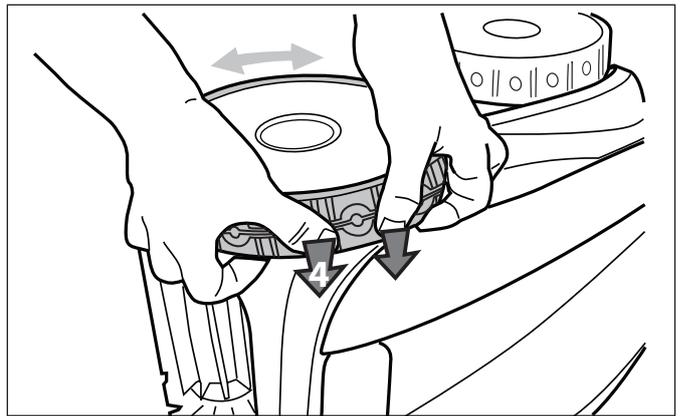

Figure 40. Push the Tyre into Place on the Wheel
6. Push and position the rib of the inner side of the tyre in the groove of the wheel (Figure 40). If needed, turn the wheel gently to help with installation.